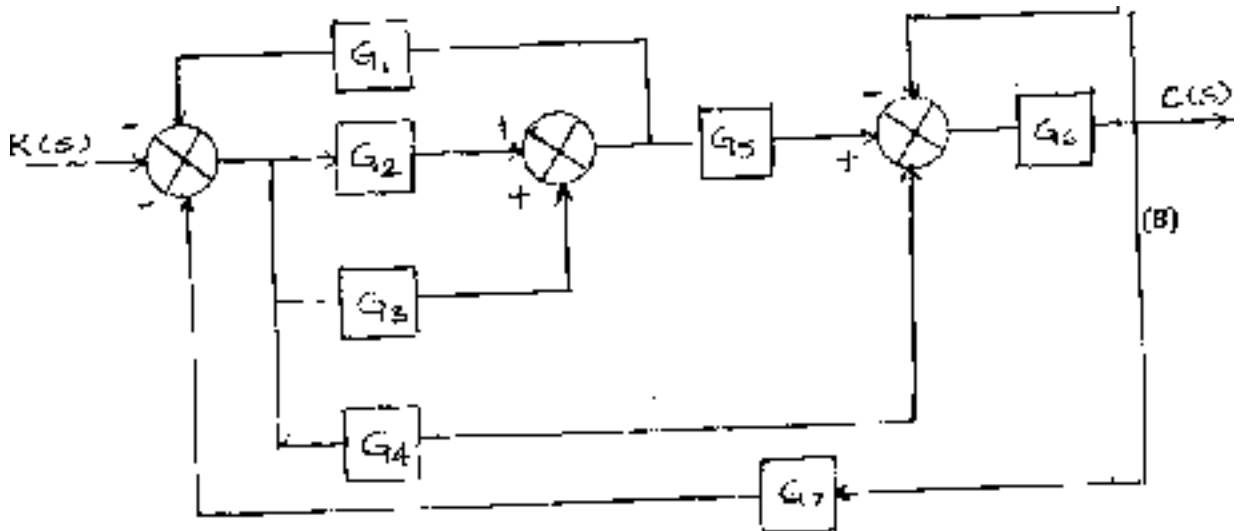

Fig. 1
- b) Reduce the following block diagram shown in fig. 1 into single equivalent block by block reduction techniques. 8